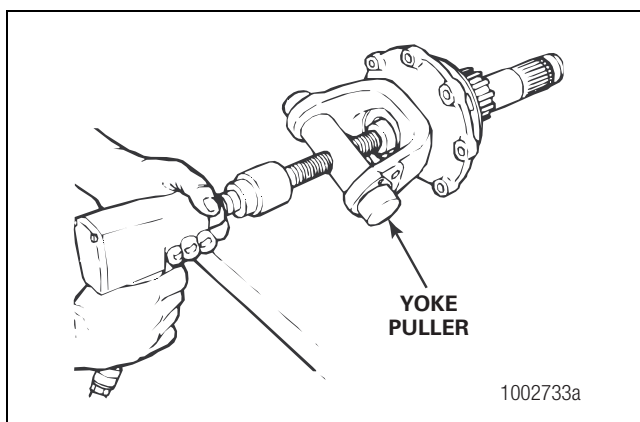
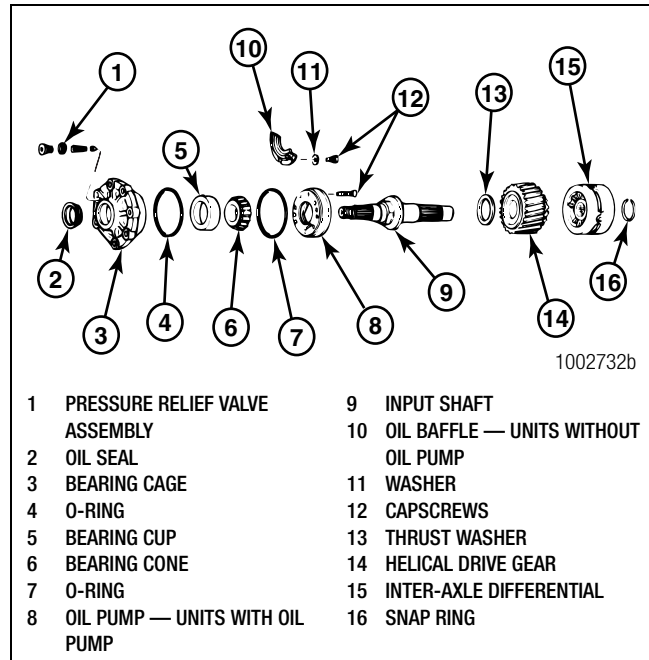

Figure 3.28
Figure 3.29
1. Use the correct tool to remove the yoke or flange from the input shaft. Figure 3.28. If the carrier is not equipped with an oil pump, remove the bearing cage from the input shaft. Figure 3.29.